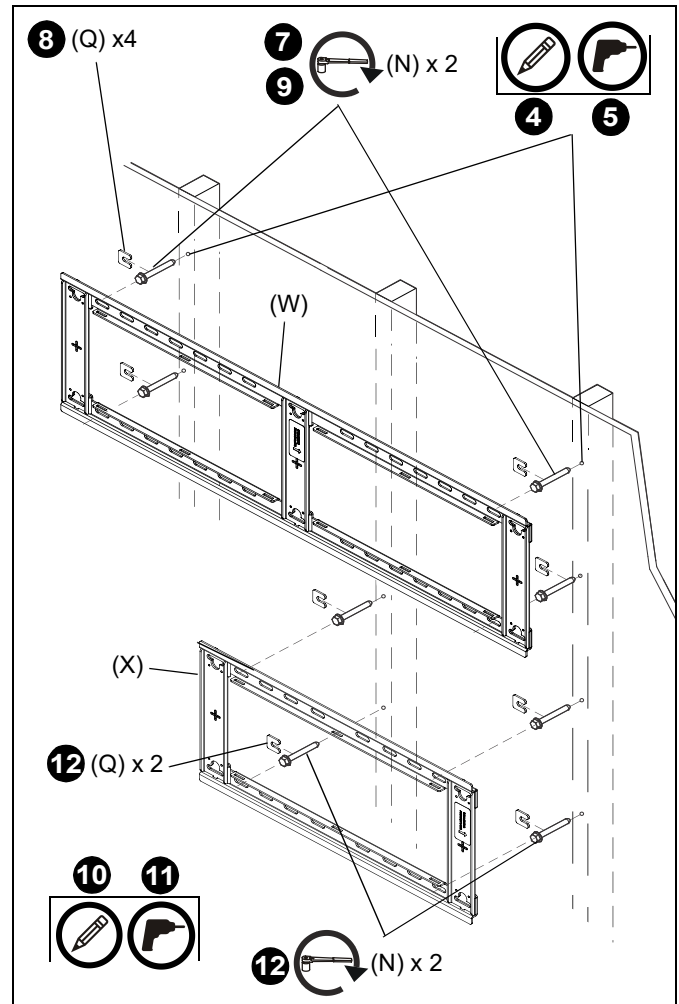

Figure 2
4. Using a level, mark the wall on each stud to attach the mount through the upper mounting slots. (See Figure 2)
6. Partially install two 5/16 x 2-1/2" flanged lag bolts (N) into pilot holes but do not tighten to wall.
8. Place one slotted washer (Q) over each flanged lag bolt. (See Figure 2)
10. Mark the attachment points for the lower mounting slots, making sure the attachment points are located on the studs. (See Figure 2)
11. Drill 7/32" (5.5mm) pilot holes at markings for lower mounting holes. (See Figure 2)
12. Use two 5/16 x 2-1/2" flanged lag bolts (N) and two 5/16" slotted washers (Q) to attach the mount to the wall through the lower mounting holes. (See Figure 2)
3. Mark location of four mounting holes on wall. (See Figure 2)